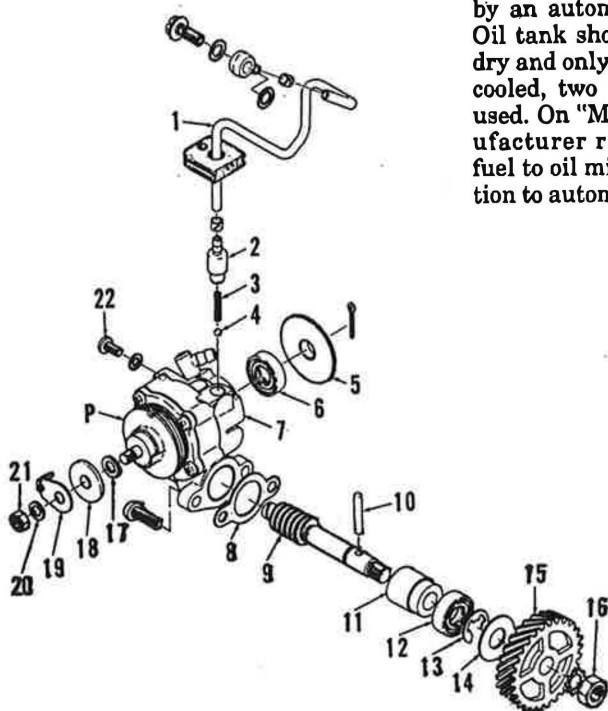

Fig. Y19-9—View of oil pump and related parts.
Oil pump must be bled if it has been removed or allowed to run dry. To bleed pump, remove bleeder screw (22—Fig. Y19-8) and turn starter plate (5) upward while holding throttle fully open. When air is no longer present in oil coming from bleed hole, replace screw. Oil pump adjustment should be checked whenever throttle has been adjusted. Mark on pump adjustment pulley (P) should be aligned with pin, located beneath cover plate (19), when slack has been taken up in the cable but throttle slide has not started to move. Minimum pump stroke should be 0.20-0.25mm (0.008-0.010 in.) on "Enduro" models and 0.60-0.65mm (0.024-0.026 in.) on "MX" and "SC" models. Minimum pump stroke is measured with throttle closed. Turn starter plate (5) until gap between adjuster plate (18) and pulley (P) is widest. Adjust gap to minimum stroke specification with various thicknesses of shim (17—Fig. Y19-9).